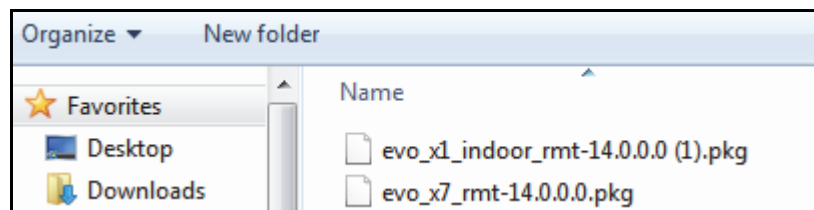

Figure 5-9. Locating the Package File
1. Click the **Browse** button in the **Load Package** section of the **File Management** page, to locate the appropriate package file. See Figure 5-9.